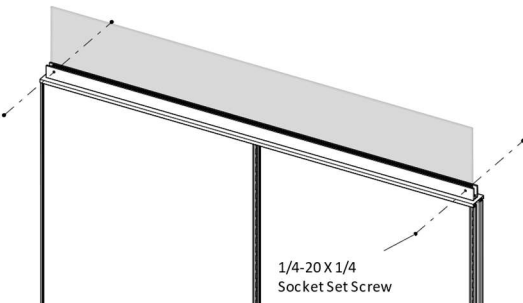

Figure 4
5. Align and secure the glass/acrylic by inserting 1/4-20 X 1/4" Socket Set Screw through each of the holes on the side of the Frameless Glazed Extrusion using Allen Key driver, (Figure 4).